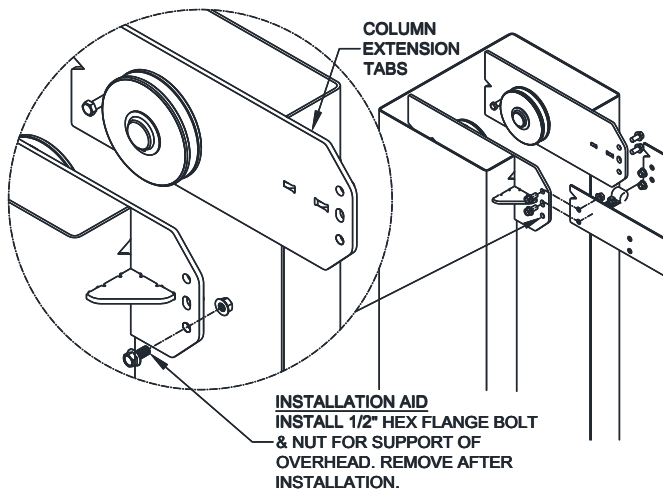

Fig. 6 – Overhead Assembly
- 25) Before raising overhead into position, install 4 (2 per column) hex flange bolts and nuts in bottom hole of column extension tab (*see Fig. 6 Installation Aid*) for temporary support of overhead. Lift overhead assembly up into position and install with 8 (4 per column) 1/2-13 x 1" lg hex flange bolts and hex flange nuts per side as shown in **Fig. 6**. For the wide position, the outer overhead holes will be used. For the 6" reduced width, use one set of outer overhead holes and one set of inner overhead holes. For the narrow width, use the inner sets of overhead holes.